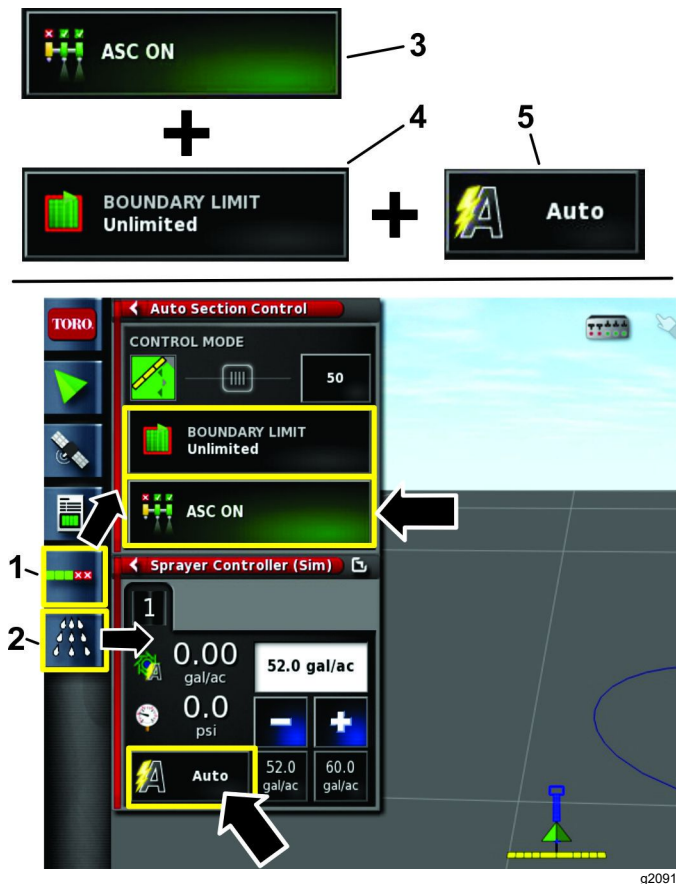

Figure 112
1. Press the AUTO SECTION CONTROL CONFIGURATION icon and the SPRAYER CONTROLLER icon (Figure 112).
2. Press the ASC icon to the ON position, set the boundary limit to the UNLIMITED position, and set the rate control to the AUTO position (Figure 112).